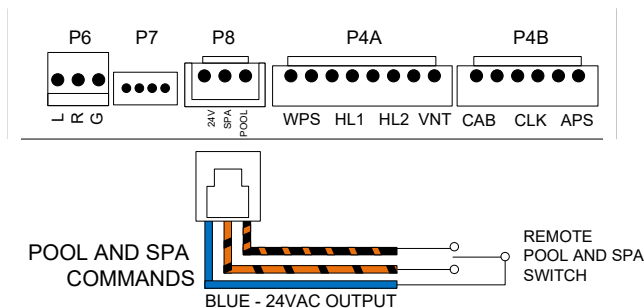

Figure 57. 3-Wire Remote Harness Installation
5. On the "Remote Interface Harness", connect the BLUE wire to one side of the "REMOTE" switch and connect the other side to either the ORANGE/BLACK wire for "SPA" operation or the BLACK/ORANGE wire for "POOL" operation. See **Figure 57**.
7. Install the "3-wire Remote Control Harness" to the P8 connector and turn power "ON" to the heater. See **Figure 57**.
4. On the 3-wire "Remote Interface Harness" connect the BLUE wire to one side of the "REMOTE" switch and connect the ORANGE/BLACK wire for "SPA" operation and the BLACK/ORANGE wire for the "POOL" operation. See **Figure 57**.
5. Install the 3-wire "Remote Interface Harness" to the P8 connector and turn power ON to the heater. See **Figure 57**.